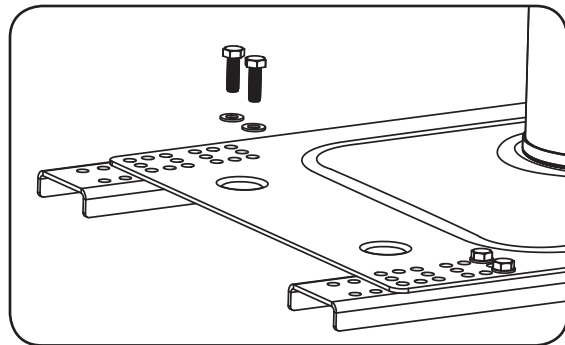

Fig. 6a
2. Attach hardware as shown in Fig. 6a. Insert each bolt through washer, base and extension bar and attach washer and nut on the underside. Two bolts must be used on each end of the extension bar (for a total of four bolts) for proper installation.